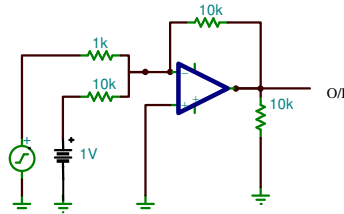

Fig. 4d Adder circuit (one ac and one dc signal)
5. Make the circuit as in Fig 4d. Now instead of two equal ac signals (derived from same function generator), take one ac signal of 10mV peak, 10KHz and other as 1V dc signal, record the output signal amplitude and phase. Repeat the measurement for 100mV peak ac signal keeping the dc signal same as 1V.